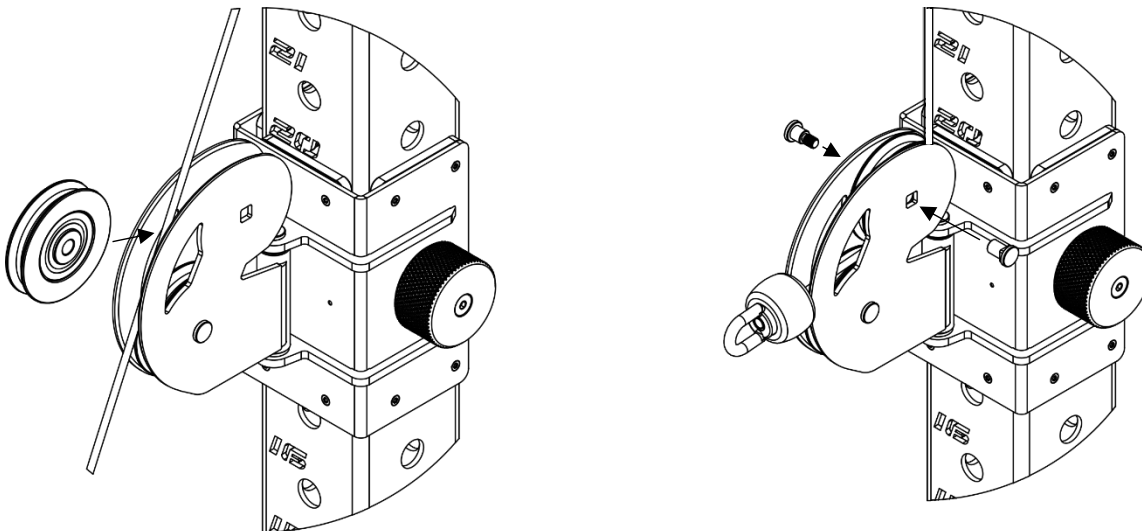

Figure 14: Reinstalling top pulley on Pulley Block Assembly
3. With the cable inside of the Pulley Block, reinstall the top pulley. Tighten the sex bolt using the 5mm L-Key (**Figure 14**).